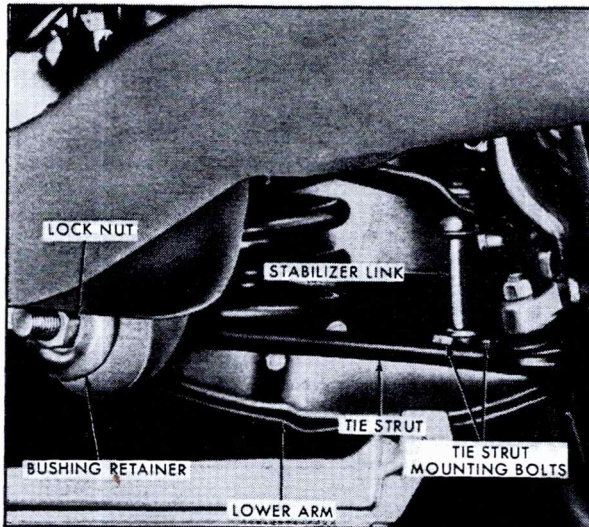

Fig. 3-9 Front Suspension Tie Strut
3. Remove locknut, bushing retainer, and bushing from forward end of tie-strut, Fig. 3-9.
7. Install front bushing retainer on tie-strut with concave side against bushing, Fig. 3-9.